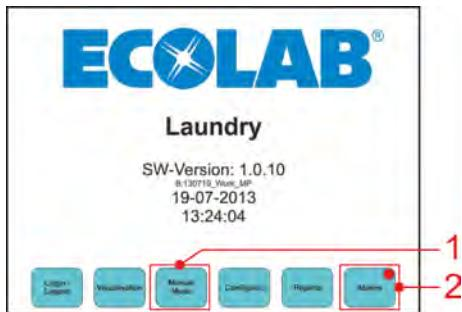

Fig. 7: Start-up / Main menu
Press the "Manual mode" button (Chapter 6.2.2 'Changeover to Manual mode / Alarms' on page 28, Fig. 7, pos. 1) on the control's touch screen.
Press the "Pump" button (↙ Chapter 6.2.2 'Changeover to Manual mode / Alarms' on page 28, Fig. 7, Pos. 1) on the control's touch screen.
Press the "Main Equipment" button (☞ Chapter 6.2.2 'Changeover to Manual mode / Alarms' on page 28, Fig. 7, Pos. 2) on the control's touch screen
Press the "Alarm" button (☞ Chapter 6.2.2 'Changeover to Manual mode / Alarms' on page 28, Fig. 7, Pos. 2) on the control's touch screen.
Press the "Login/Logout" button (↳ Chapter 6.2.2 'Changeover to Manual mode / Alarms' on page 28, Fig. 7, item 3) on the control's touch screen.